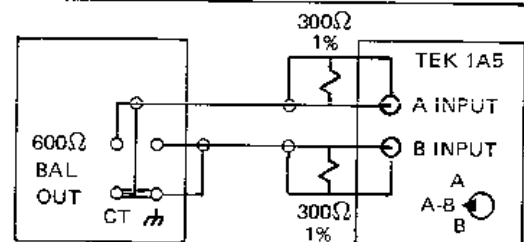

Figure 2-1. Test Set-up for 600 Ω BAL
13. Connect the 600 Ω balanced output connectors to a differential input oscilloscope (Tektronix 1A5 plug-in or equivalent) as shown in Figure 2-1.
When in the 600Ω balanced mode, the SYNC OUT connector must not be connected directly to an oscilloscope since the BNC shells are connected to one of the balanced output signals. Connecting directly to the scope without isolating with a pulse transformer will cause attenuator B (see Figure 2-1) to be shorted, thus, one-half of the output impedance (300Ω) will be lost. The amplitude will remain the same, but the result is a 300Ω single ended output.